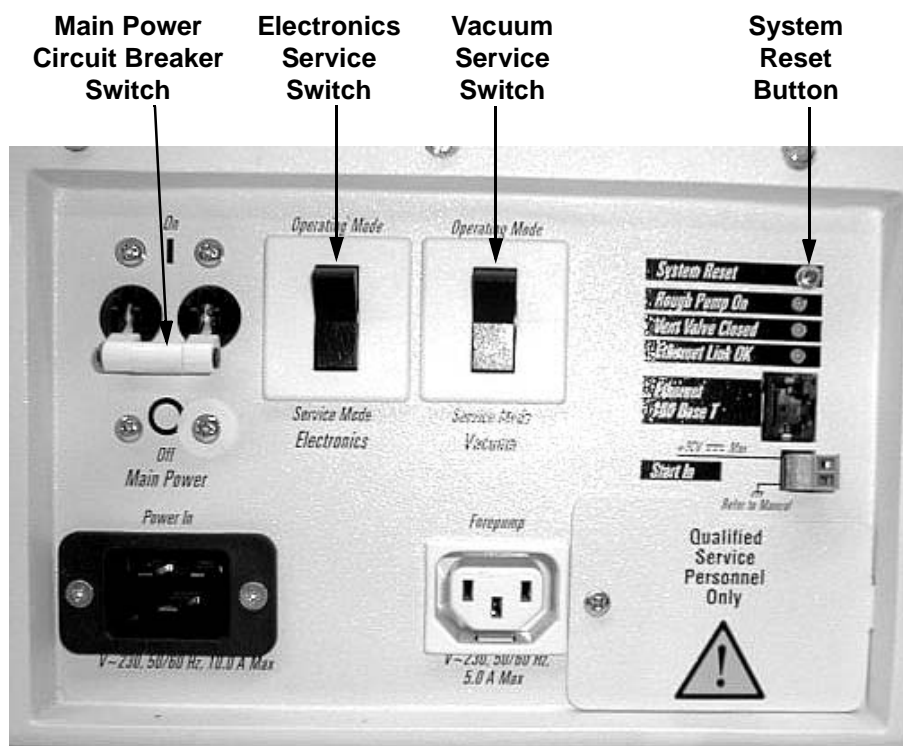

Figure 6-1. Power panel, showing the main power circuit breaker switch, electronics service switch, vacuum switch, and system reset button
If you need to turn off the mass spectrometer in an emergency, place the main power circuit breaker switch, located on the power panel on the right side panel of the mass spectrometer (see Figure 6-1), in the Off (O) position. This turns off all power to the mass spectrometer, including the vacuum pumps. Although removing power abruptly will not harm any component within the system, this is not the recommended shutdown procedure to follow under normal conditions. Refer to **Shutting Down the System Completely** on page 6-4 for the recommended procedure.
3. Place the electronics service switch, located on the power panel (see Figure 6-1 on page 6-2), in the Service Mode position.
4. Place the vacuum service switch, located on the power panel (see Figure 6-1 on page 6-2), in the Service Mode position.
5. Place the main power circuit breaker switch, located on the power panel (Figure 6-1) in the Off (O) position. When you place the main power circuit breaker switch in the Off (O) position, the following occurs:
If communication between the mass spectrometer and data system computer is lost, it may be necessary to reset the mass spectrometer using the Reset button on the power panel. When you press the System Reset button, an interrupt in the embedded computer is created. This causes the embedded computer to restart in a known (default) state. See Figure 6-1 on page 6-2 for the location of the System Reset button.